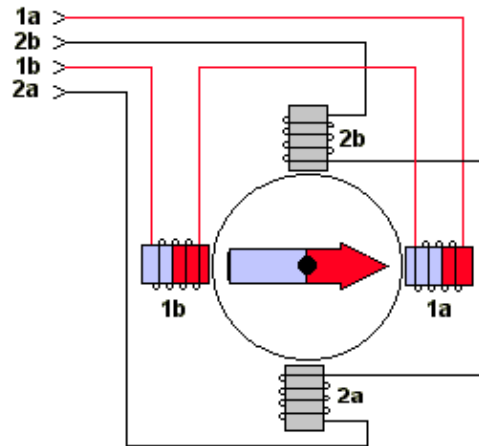

Figure 2: A bipolar stepper motor with 4 connection wires
- A bipolar motor has four wires. There is no common centre connection and it has two independent sets of coils (see Figure 2). In this case an H-bridge channel on the Arduino motor shield can directly control each coil.